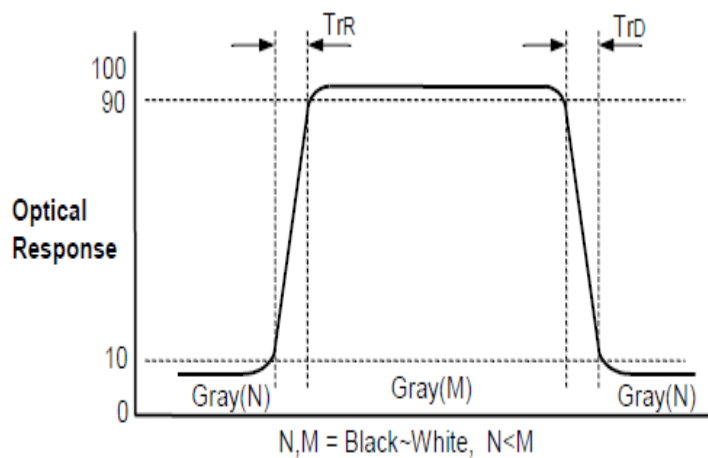

FIG. 3 Response Time
3. Response time is the time required for the displayto transit from G(N) to G(M) (Rise Time,  $\tau_{rR}$ ) and from G(M) to G(N) (Decay Time,  $\tau_{rD}$ ). For additional information see the FIG. 3. (N<M)※G to G Spec stands for average value of all measured points.Photo Detector : RD-80S / Field : 2°.